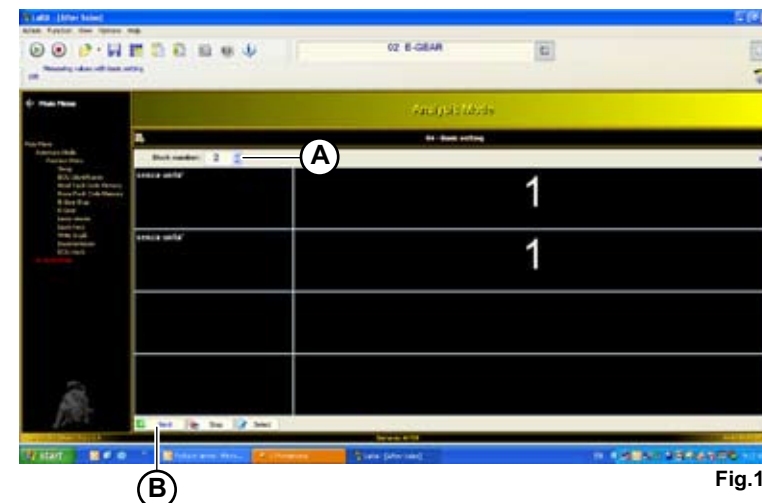

Fig.10
- Select routine 2 inside the block number (**A-Fig.10**).
- Start the connection () and press the start push-button (**B-Fig.10**).